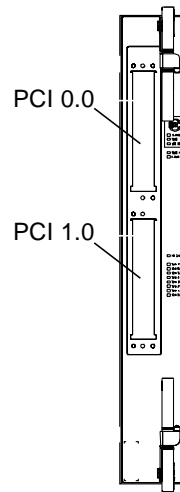

FIGURE 2-13 PCI Slot Numbering
8. **Based on the previous configuration, determine the slot for installing the PCI card (FIGURE 2-13).**